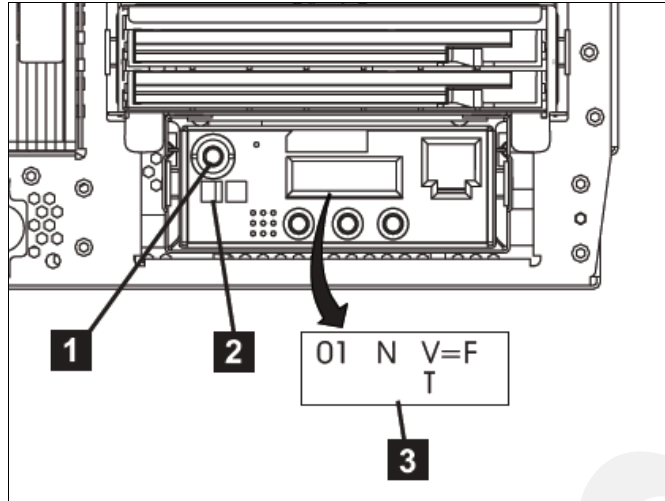

Figure 8-14 Enterprise Controller's operator panel
3. When the Enterprise controllers are in standby mode (blinking green LED 2 on operator panel), press the power ON button 1, which is located on the Enterprise controller operator panel. See Figure 8-14 on page 184. When the controller has powered on successfully, the controller panel displays READY on. This could take up to 15 minutes.